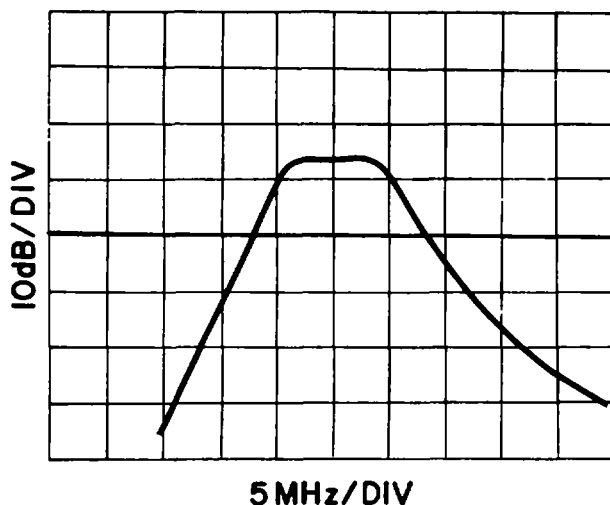

Figure 4-19. 2nd Converter Alignment, Typical Response
6. Adjust coils L6, L7, and L8 for the flattest response, with a minimum 1 dB bandwidth of 6 MHz as illustrated in **Figure 4-19**. The subassembly gain should be 13 + dB greater than the reference set in step 5.